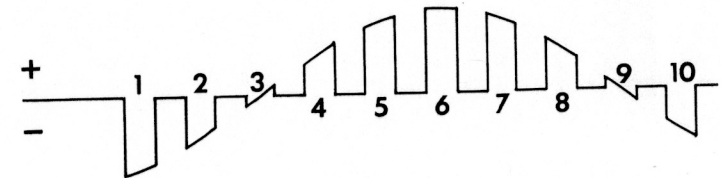

Figure 57. B-Y Amplifier Output as Seen on an Oscilloscope
5. Move the oscilloscope connection to the output of the B-Y amplifier. Adjust the quadrature transformer which drives the B-Y demodulator so that the 3rd bar is at zero amplitude as shown in Figure 57.